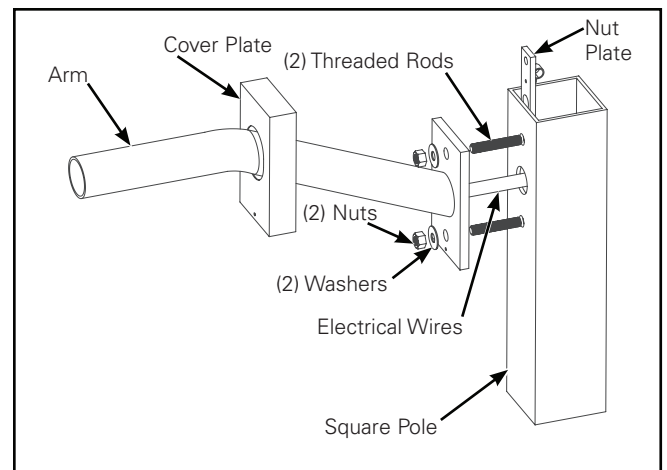
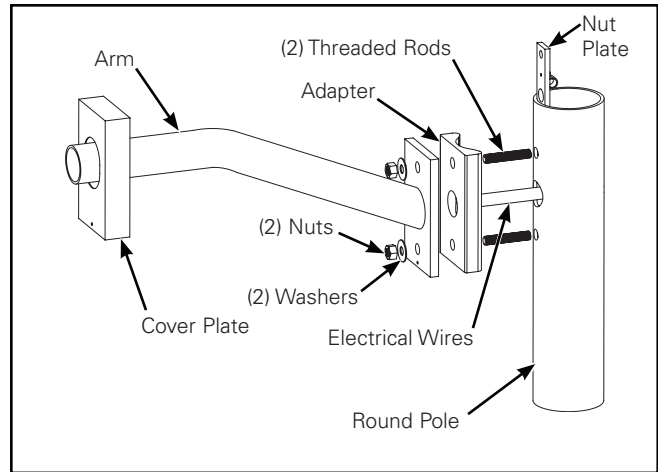

Figure 6.
Figure 7.
Mast Arm: Square Pole (Figure 6.) and Round Pole (Figure 7.)
3. For round poles only - Install round plate adapter with round side facing pole (Figure 7). Align holes top and bottom.